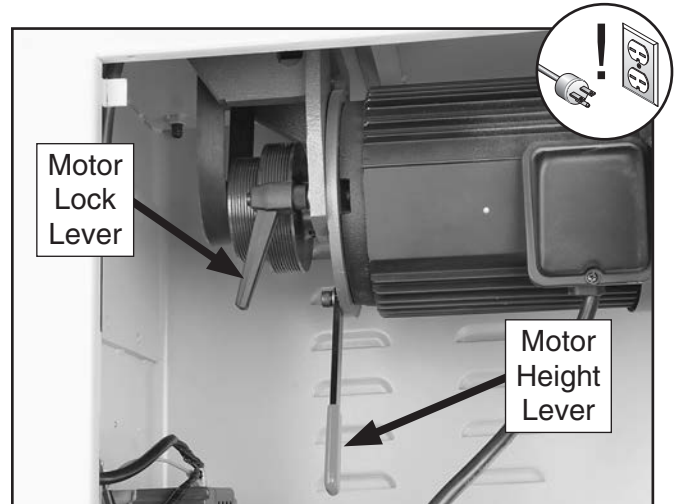

Figure 55. Motor tension controls.
2. Loosen the motor lock lever shown in **Figure 55**, raise the motor up using the height lever, then let the motor hang down on its own weight to tension the belt.